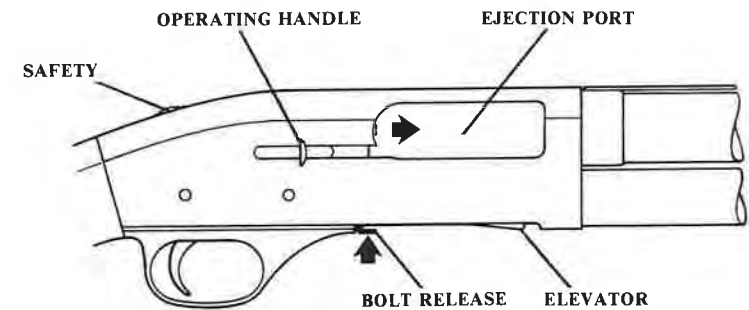
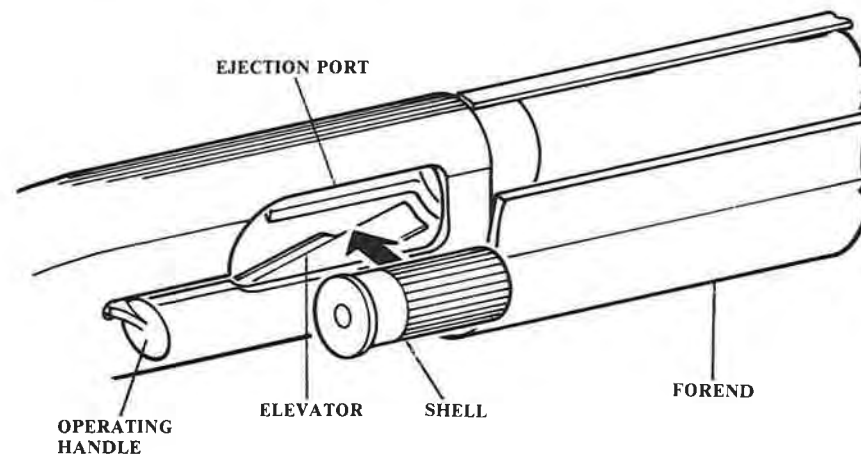

Fig. 8
Fig. 9
With fingers and other objects away from the ejection port, push the bolt release (Fig. 8). The bolt should be driven forward under spring pressure and lock in the closed position. Grasp operating handle and pull bolt fully rearward to the locked position. The bolt should cycle smoothly without binding.
**TO CLOSE ACTION** — With safety "ON" (SAFE), press bolt release toward elevator until action releases. CAUTION: Keep fingers clear of operating handle and ejection port when closing action (See Figure 8).
Open the action by pulling the operating handle completely rearward until it locks in the open position (Fig. 8).
If you wish to load the firearm with the maximum number of shells or fire single shots, load the first shell through the ejection port located on the right side of the receiver (Fig. 9). The shell can be inserted directly into the chamber or placed on top of the elevator. Close the action by pressing the bolt release (Fig. 8). Be sure to keep fingers and other objects out of the ejection port.
**WARNING:** During firing, the operating handle (Fig. 8) travels rearward with considerable force and velocity. Do not place hands or other objects in its path.